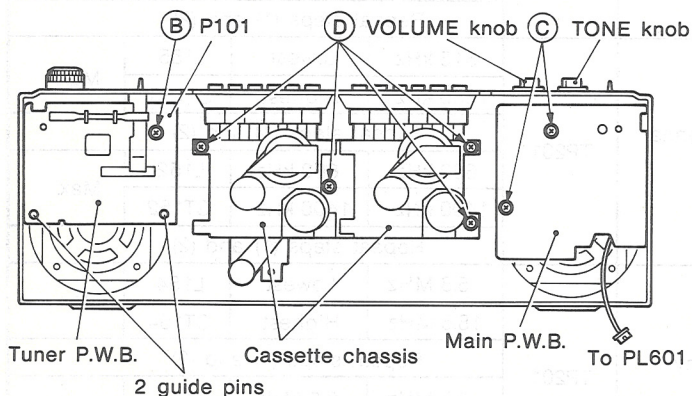

Fig. 3
3. Tuner P.W.B. Removal (Fig. 3)
4. Main P.W.B. Removal (Fig. 3)
- (1) Pull out the TONE, VOLUME knobs.
- (2) Remove 2 fixing screws (C) and the Main P.W.B. is removed when the terminals (LINE IN, EXT MIC, PHONES) and switches (INN MIC, SP, FM MODE, RIF) are pulled out of the front case.
5. Cassette chassis (TAPE 1 and TAPE 2) Removal (Fig. 3)